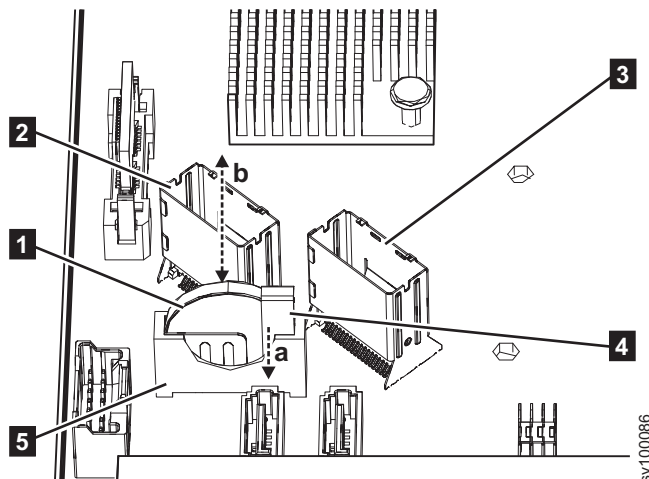

Figure 132. Replacing the 2145-SV1 CMOS battery
- a. Pull the battery holder catch **4** in the direction (a) shown in Figure 132 on page 156.
- b. Insert the battery into the holder **5** in the direction (b) shown in Figure 132 on page 156. The “+” mark on the battery must face towards the front of the node.